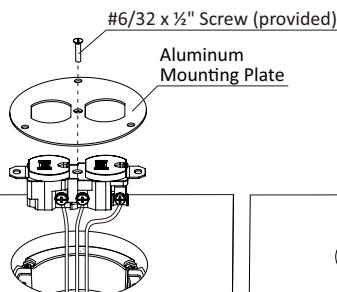
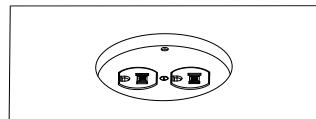

Fig. 6
Fig. 7
5. Using standard electrical wiring practices, connect wires to the duplex receptacle. Attach the aluminum mounting plate to the receptacle using a #6/32 x 1/2" screw (provided) (Fig. 6). Place the plate with the attached receptacle on top of the #812-DA box inside the hole (Fig. 7).